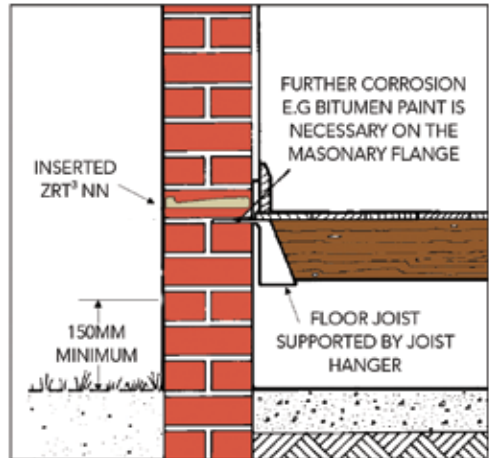

Figure 3. Isolation of timber joints from damp wall
- 10.3 If damage is limited to the joist ends, the floor may be reformed, using sleeper walls or joist hangers, to isolate the timber from the damp wall. (see figure 3)